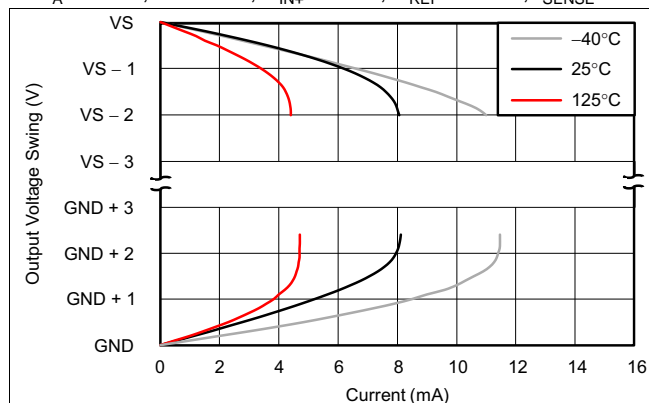

Figure 19. Output Voltage Swing vs Output Current
(6) System gain error includes amplifier gain error and the integrated sense resistor tolerance. System gain error does not include the stress related characteristics of the integrated sense resistor. These characteristics are described in the *Shunt Resistor* section of the Electrical Characteristics table.
(7) See *Typical Characteristics* curve, *Output Voltage Swing vs Output Current* (Figure 19).